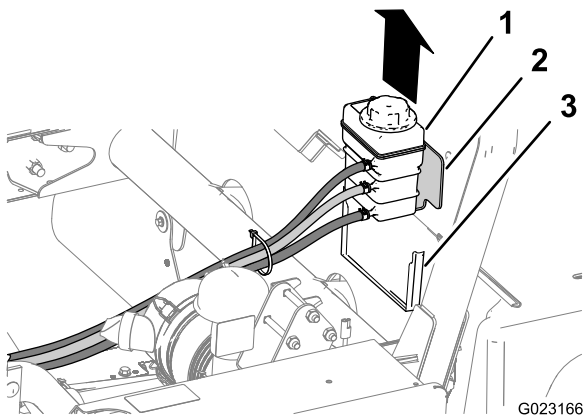

Figure 11
3. Lift the coolant tank up and out of the support bracket on the back of the ROPS shield (Figure 11).